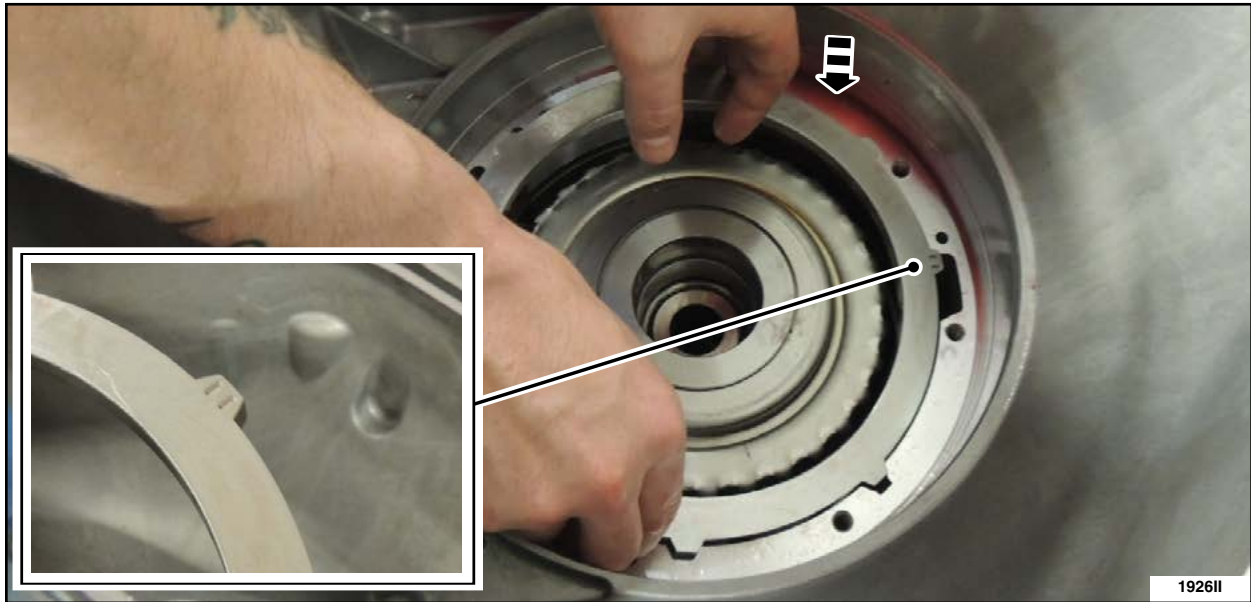

FIGURE 34
31. Install the overdrive pressure plate with the notches facing up. See Figure 34.